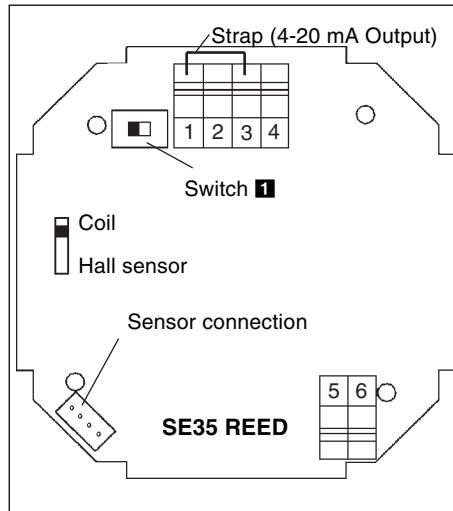
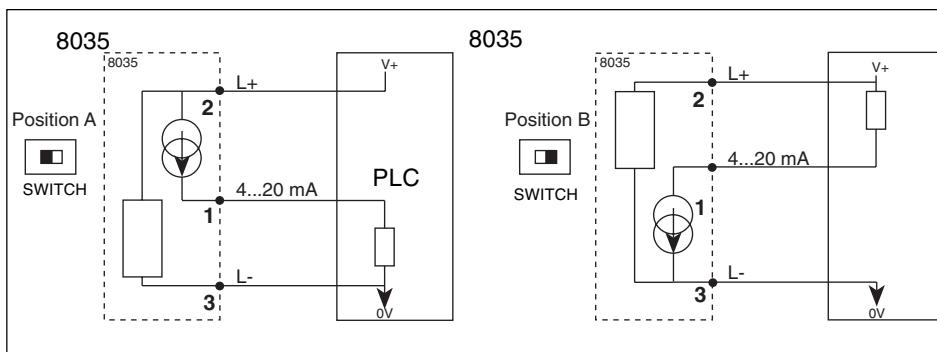

Fig. 3.9 Wiring SE35 with relay REED
Fig. 3.10 SE35 with relay REED, 4-20 mA output connection to a PLC
Ensure the electrical wiring via 2 cable glands. Remove cover, pull cable through PG 13.5 and wire according to following pin assignment (fig. 3.9):
**PLC-connection:** Depending on the PLC-version, set the switch **1** on the circuit board to position A or B (fig. 3.9 and fig. 3.10).
**4-20 mA Output:** If the 4-20 mA current output is used, remove the strap (1-3) (fig. 3.9).
**Warning:** If the current output 4...20 mA is not used: set the switch **1** in position A (fig. 3.10) and the strap between 1-3 (fig. 3.9).
**!** If the current output 4...20 mA is not used: set the switch 1 in position A (fig. 3.10) and the strap between 1-3 (fig. 3.9).